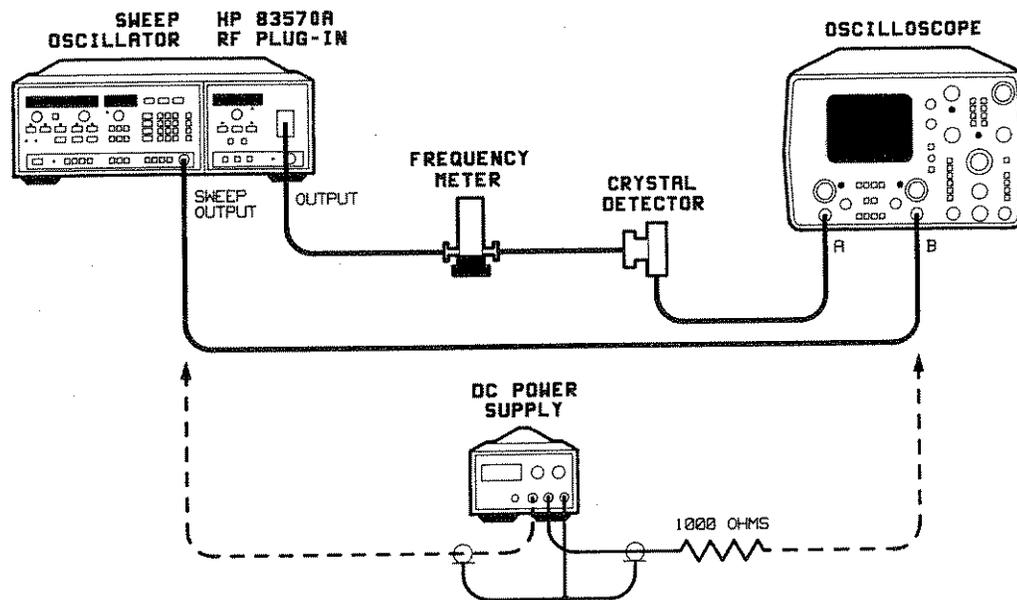

Figure 5-12. Delay Compensation Adjustment Test Setup
1. Connect equipment as shown in Figure 5-12. Allow the equipment to warm-up for 30 minutes.
6. Connect the power supply as shown in Figure 5-12 and adjust it to 10V.